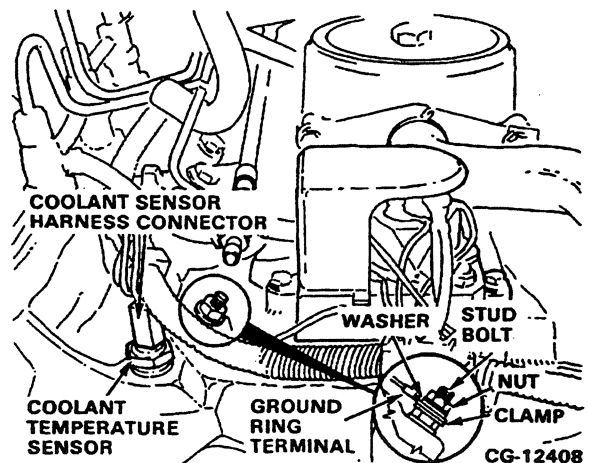

Figure 9.51D. Ground Wire and Coolant Sensor Harness Connector Removal
3. Disconnect the harness connector at the coolant temperature sensor in the left cylinder head. Refer to **Figure 9.51D**.
4. Remove the nut and washer from the ground ring terminal. Refer to Figure 9.51D.